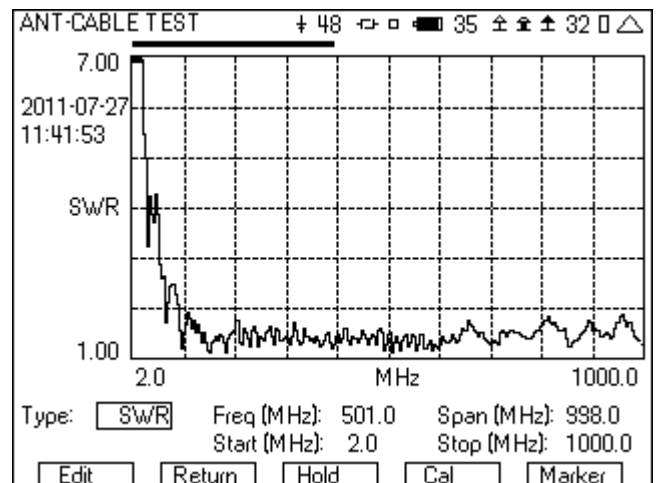

Figure 28 - VSWR sweep
6. Figure 28 shows an example VSWR sweep over the entire range of the 3500A.